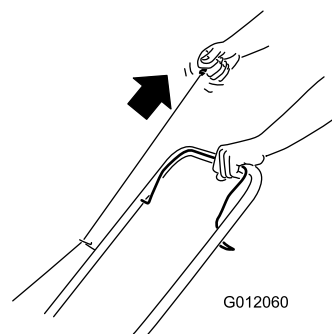

Figure 11
2. Pull recoil start handle (Figure 11).